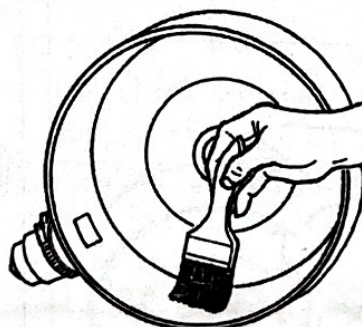

Fig 3-5 Clean Dust Accumulator
3.2.2 Clean the dust accumulator of air cleaner (see Fig3-5).